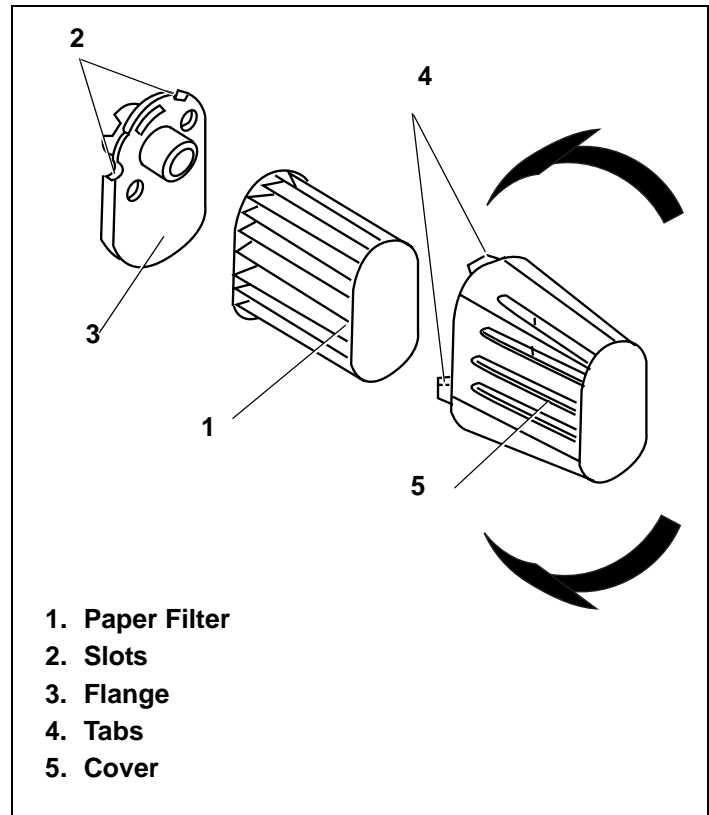

Figure 52. Air Cleaner Type “E” Assembly
1. Turn cover clockwise to remove. See Figure 52.